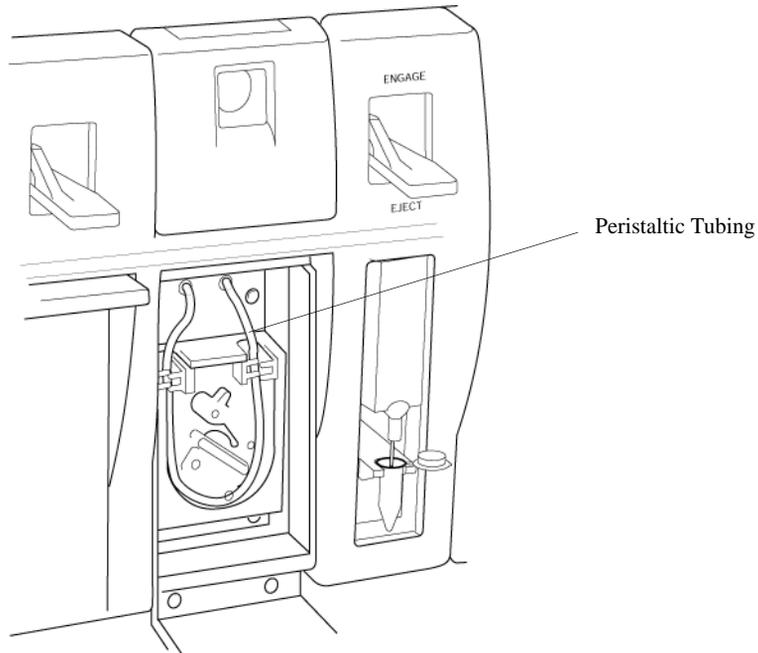

Figure 3.2
1. Open the drop-down door to the module to access the peristaltic pump tubing. See **Figure 3.2 on page 31**.